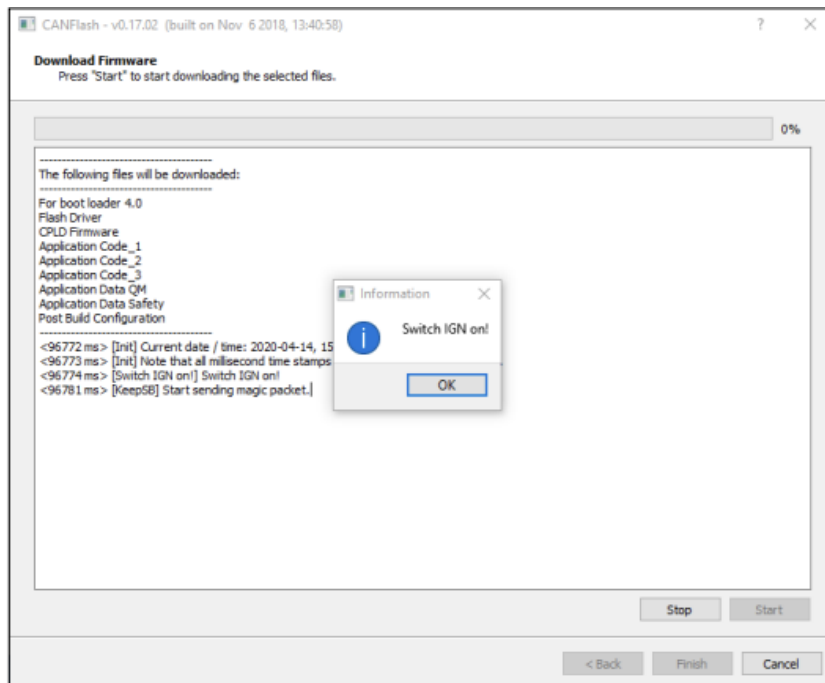

Figure 20: Flip switch on 1144289 when CANFlash shows Switch IGN on!
56. Flip the ignition switch on 1144289 ON when CANFlash says Switch IGN on! (see figure 20). In part 1 you do not need to turn the Master Run switch ON.